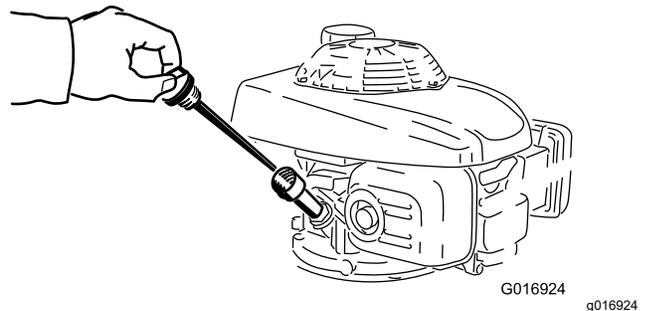

Figure 26
5. Remove the dipstick (Figure 26).